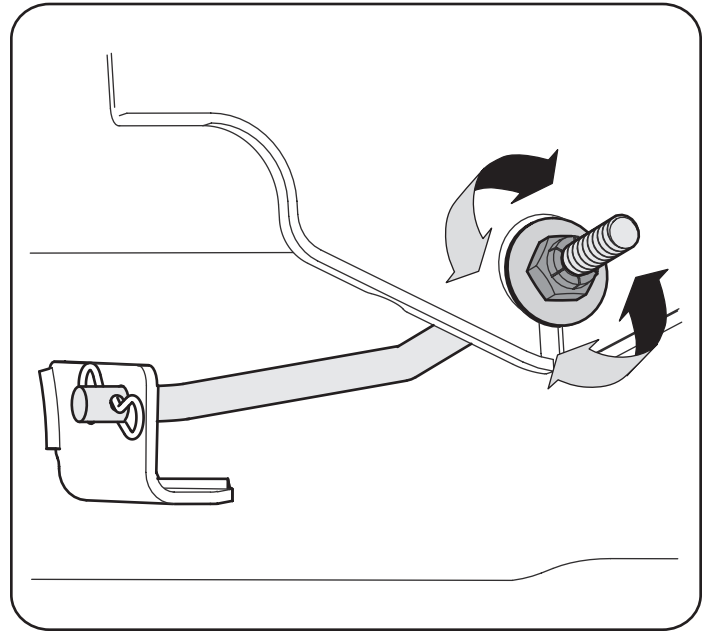

Figure 23
3. Locate the jam nut and lock nut on the front side of the stabilizer bracket. See Figure 23.